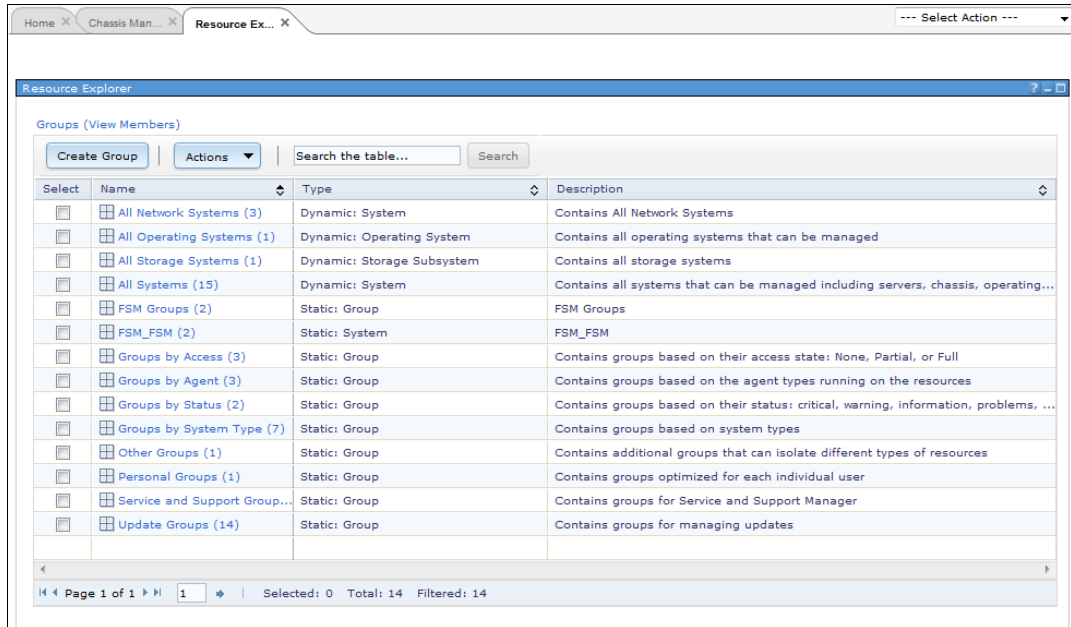

Figure 3-90 Resource Explorer
2. Resource Explorer shows a snapshot of all resources in the IBM Flex System Manager managed by the IBM Flex System Manager, as shown in Figure 3-90.